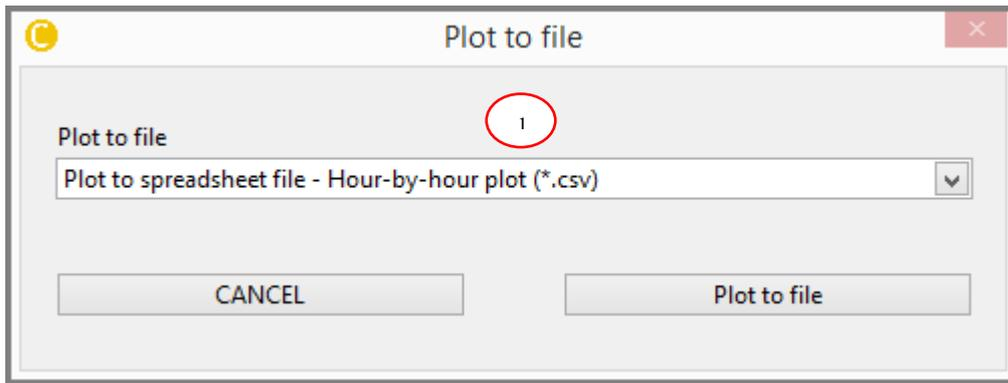

Figure 4-13: Plot TAB - Plot to file
By pushing the **"Plot to File"** button in the plot settings section a pop up dialog appear as shown in the Figure 4-13 allowing the user to **Export the plot** in two different formats:
- Choose the format from the **pull down menu** as indicated by 1 (encircled 1) from Figure 4-13